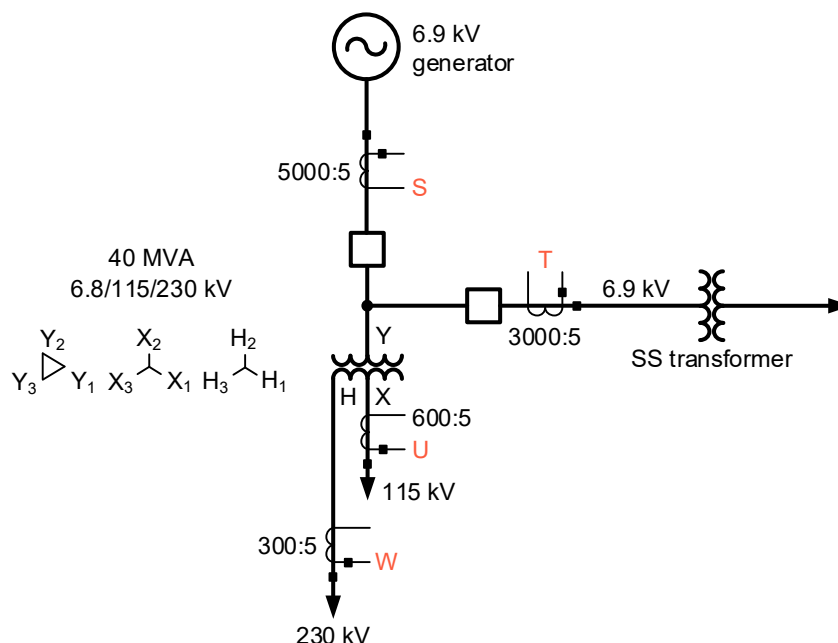

Figure 1 Transformer Installation
A utility has a 6.9 kV generator connecting to a 40 MVA, 6.8/115/230 kV, generator step-up (GSU) transformer, as seen in Figure 1. An SEL-487E Transformer Protection Relay is used as the differential protection for the GSU transformer. The CTs are connected in wye with differential polarity and connected to the S, T, U, and W current channel inputs on the SEL-487E. The utility reports that there was an external fault on the station service (SS) transformer and the SEL-487E tripped unexpectedly. This exercise helps us determine why the relay operated, if there are any problems, and propose solutions.
Based on the one-line diagram of the system (see Figure 1), Terminal T should have the same compensation as Terminal S. Likewise, Terminal W should have the same compensation as Terminal U. The compensation settings are correct.